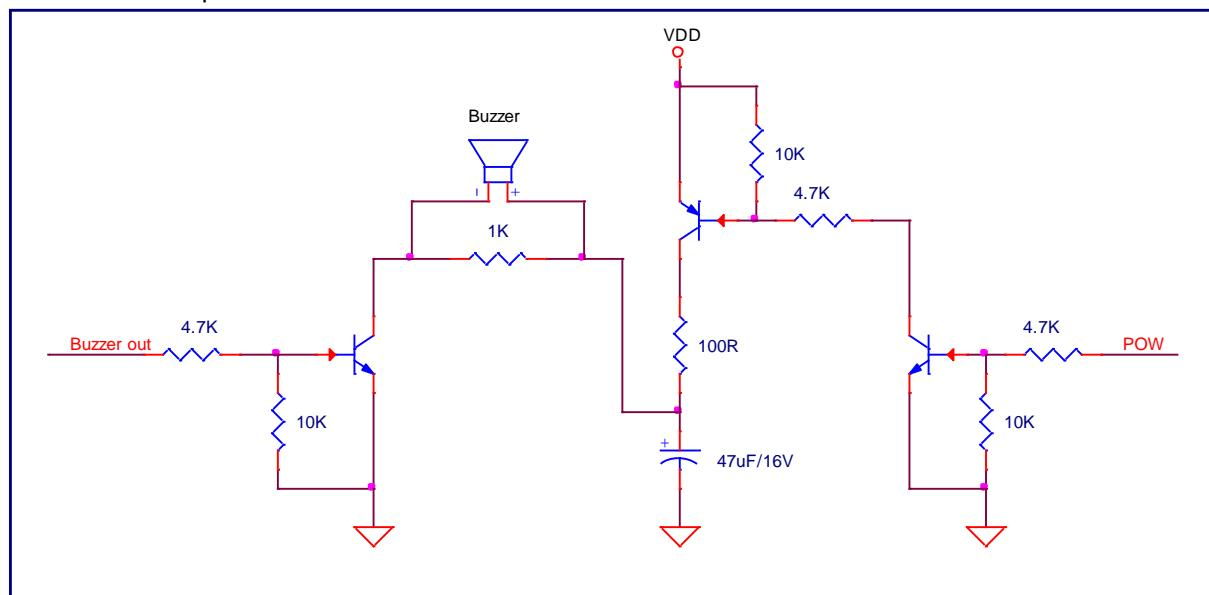

Figure 11: Typical application circuit for Melody
**Tramp-up** : 100R as below in figure 11 decides the signal ramp-up rate.
**Tramp-down:** The signal ramps down because POW is low and the 47uF capacitor as below in figure 11 decides the ramp-down rate.